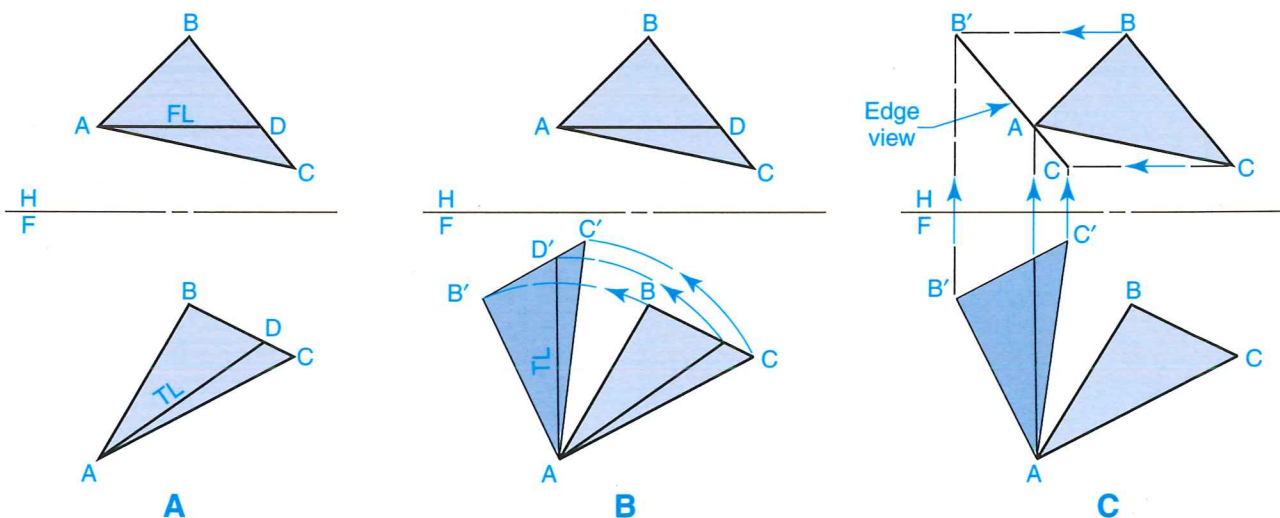

Figure 13-5. Revolving a plane to locate the edge view.
The edge view of a plane can be found using the revolution method. A true length line on the plane in an adjacent view must first be located. Then a point view of that line is projected to the view where the edge view is desired, **Figure 13-5**. Given the top and front views of Plane ABC, use the following procedure.
1. The top and front views of Plane ABC are given. Refer to **Figure 13-5**.